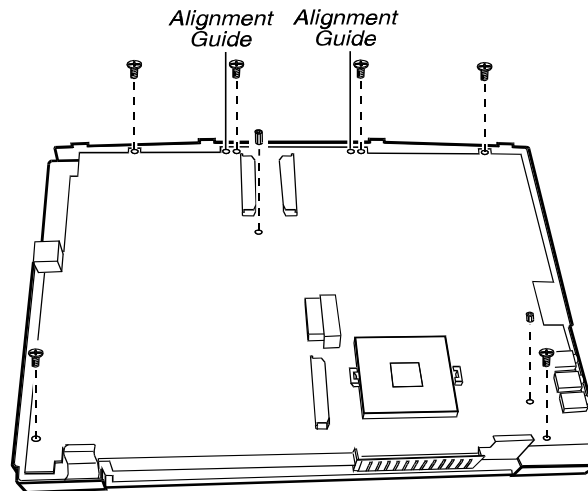

FIGURE 7-32. REMOVING THE SIX SCREWS AND TWO HEXNUT SCREWS FROM SYSTEM BOARD
2. REPLACE THE TWO HEXNUT SCREWS AND SIX SCREWS TO THE SYSTEM BOARD. (SEE FIGURE 7-32 EARLIER).